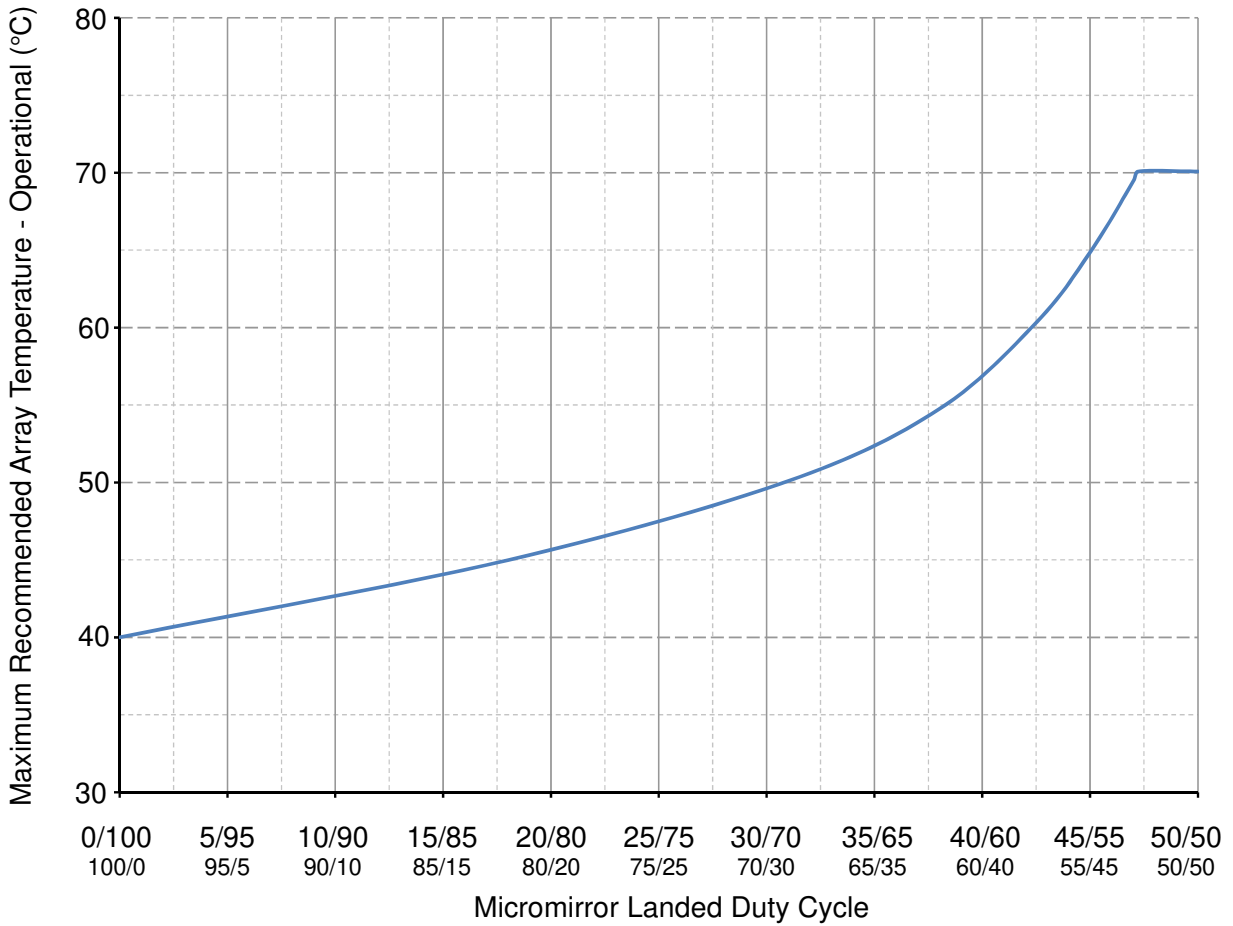

图 6-1. Maximum Recommended Array Temperature—Derating Curve
- (11) Long-term is defined as the usable life of the device.
- (12) Per 图 6-1, the maximum operational array temperature should be derated based on the micromirror landed duty cycle that the DMD experiences in the end application. See 节 7.7 for a definition of micromirror landed duty cycle.
- (13) Array temperatures beyond those specified as long-term are recommended for short-term conditions only (power-up). Short-term is defined as cumulative time over the usable life of the device and is less than 500 hours.